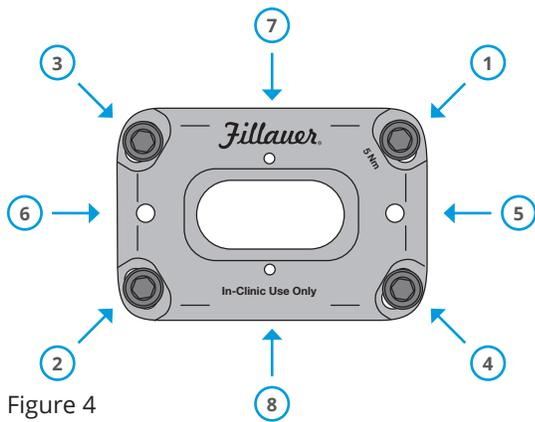

Figure 4
- Attach the Adjustable Alignment Bracket to the Transfer Fixture by placing two M6 socket head screws through the slots in the Transfer fixture into the threaded holes 5 & 6 (Figure 4) in the Adjustable Alignment Bracket and tighten to prevent movement.